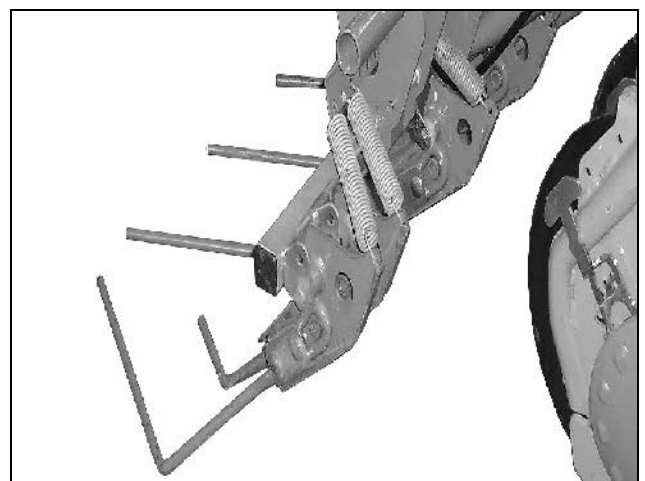

Fig. 43
The hydraulic ram (Fig. 43/1) is fitted to the exact harrow when supplied. Connect the hydraulic hose (Fig. 43/2) to the hydraulic ram (Fig. 43/1).
**Allow the hydraulic hose (Fig. 43/2) to have a sufficiently large loop in it when fitting to the pivoting points of the link arms of the extra coverage following harrow to prevent the hose being torn apart by movement of the extra coverage following harrow.**